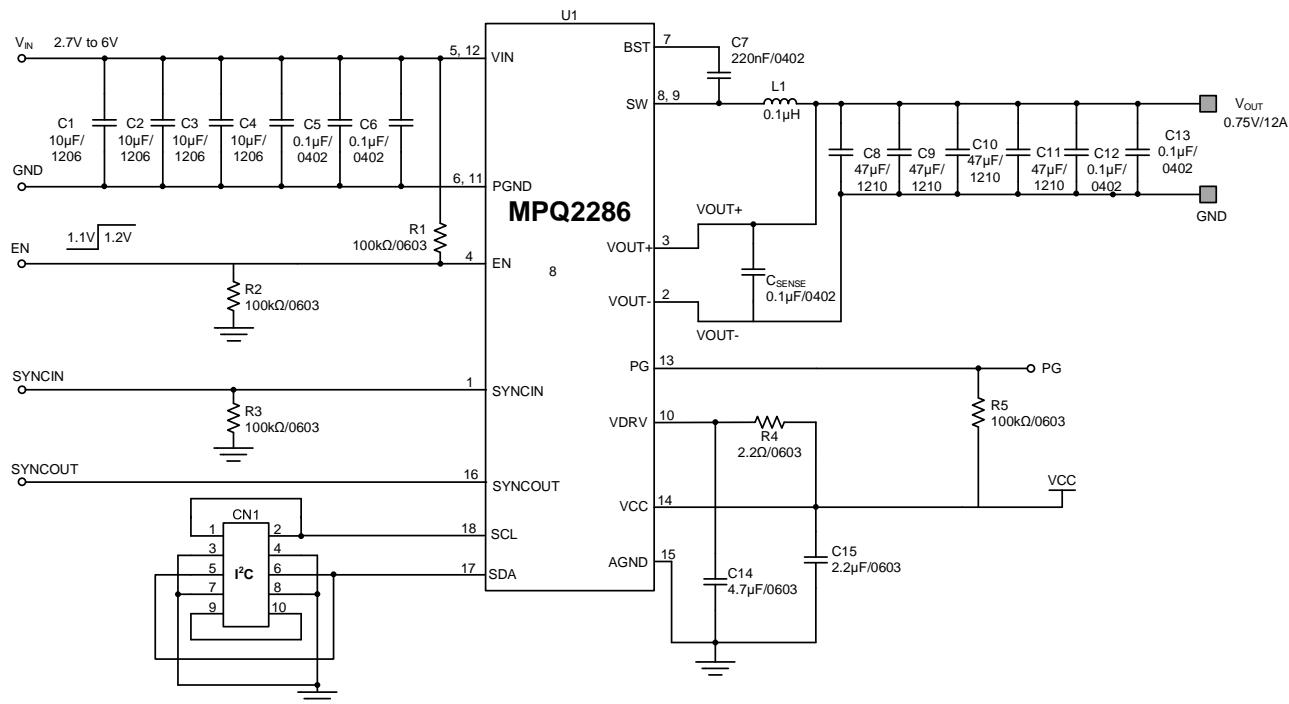

Figure 13: Typical Application Circuit ($V_{OUT} = 0.75V$, $I_{OUT} = 12A$, $f_{sw} = 3MHz$)
- 12) The recommended PCB layout is based on Figure 13 on page 64.